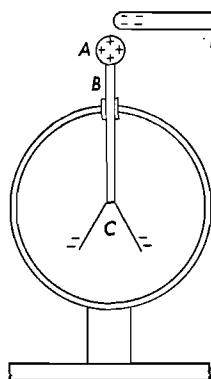

Fig. 22.8. A gold-leaf electroscope.
**130. Electroscopes.** An *electroscope* is any device that enables one to determine whether or not a body is charged. The gold-leaf electroscope, Figure 22.8, is often used for this purpose. It consists of a metal ball *A* at the top,